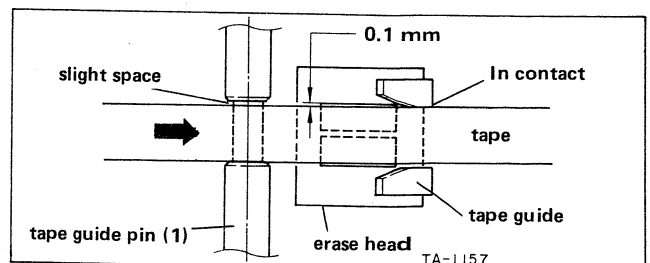

Fig. 6-14 Erase head height fine-adjustment
5. Thread a TEAC YTT-8013 test tape (thickness = 35 μm). With the tape running at LOW speed (thru step 13), fine-adjust the height of the erase head so that the upper edge of the tape is just in contact with the upper edge of the tape guide on the head. The lower edge of the tape should just touch the lower edge of the tape guide pin (1). See Fig. 6-14.